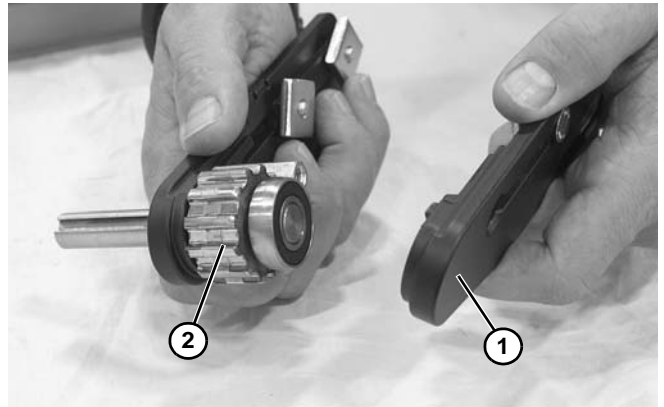

Figure 64
4. Remove the headplate (**Figure 64, item 1**) and remove the spindle (**Figure 64, item 2**).